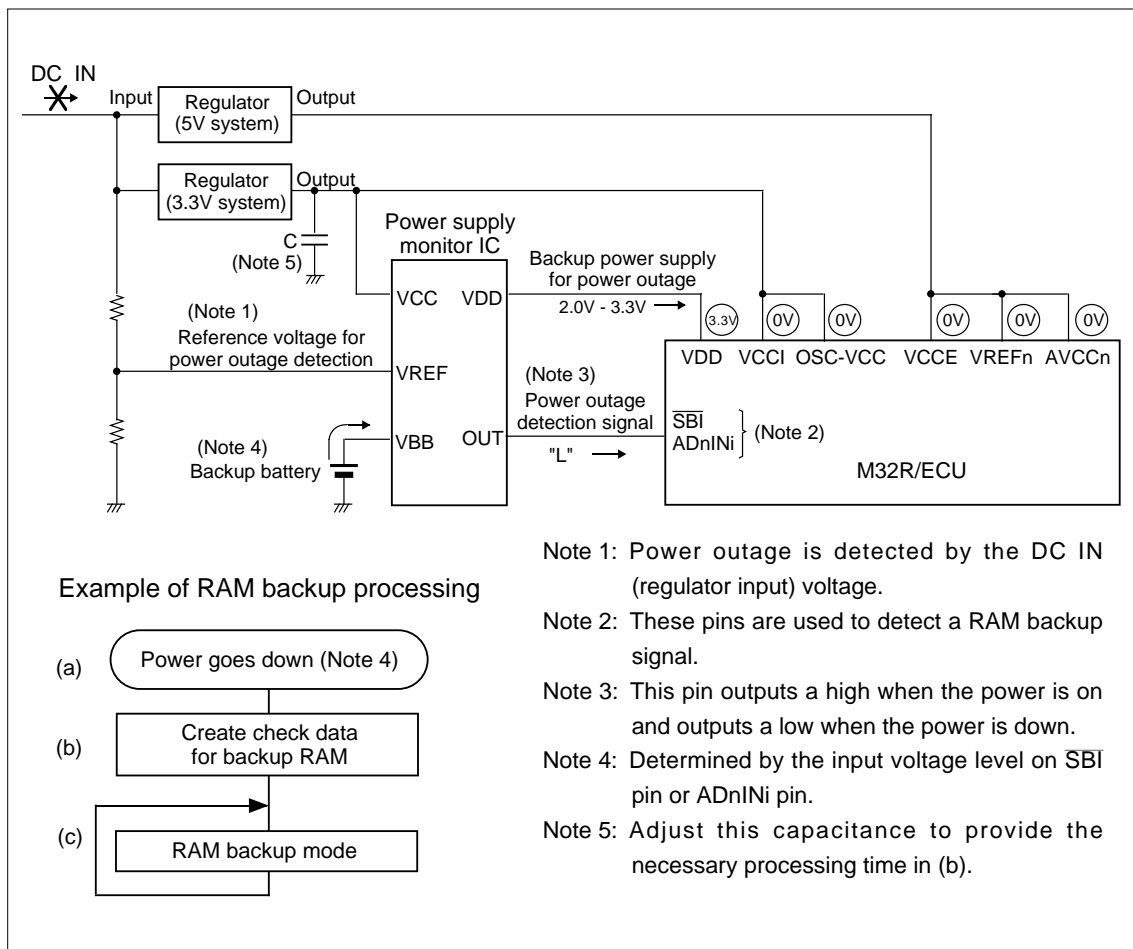

Figure 17.2.3 RAM Backup State at Power Outage
Shown in Figure 17.2.3 is the power outage RAM backup state of the M32R/ECU. When the power supply goes down, the power supply monitor IC starts feeding current from the backup battery to the M32R/ECU. Also, the power supply monitor IC's power outage detection pin outputs a low, causing the $\overline{\text{SBI}}$ pin or ADnINi pin input to go low, which generates a RAM backup signal ((a) in Figure 17.2.3). Whether the power is down or not must be determined with respect to the DC IN (regulator input) voltage in order to allow for a software processing time at power outage.
- (1) Create check data to verify after returning from RAM backup to normal mode whether the RAM data has been retained normally ((b) in Figure 17.2.3).
When the power supply to VCC goes down after settings in (1), the voltage applied to the VDD pin becomes 2.0-3.3 V and voltages applied to all other pins drop to 0 V, and the M32R/ECU thereby enters RAM backup mode ((c) in Figure 17.2.3).